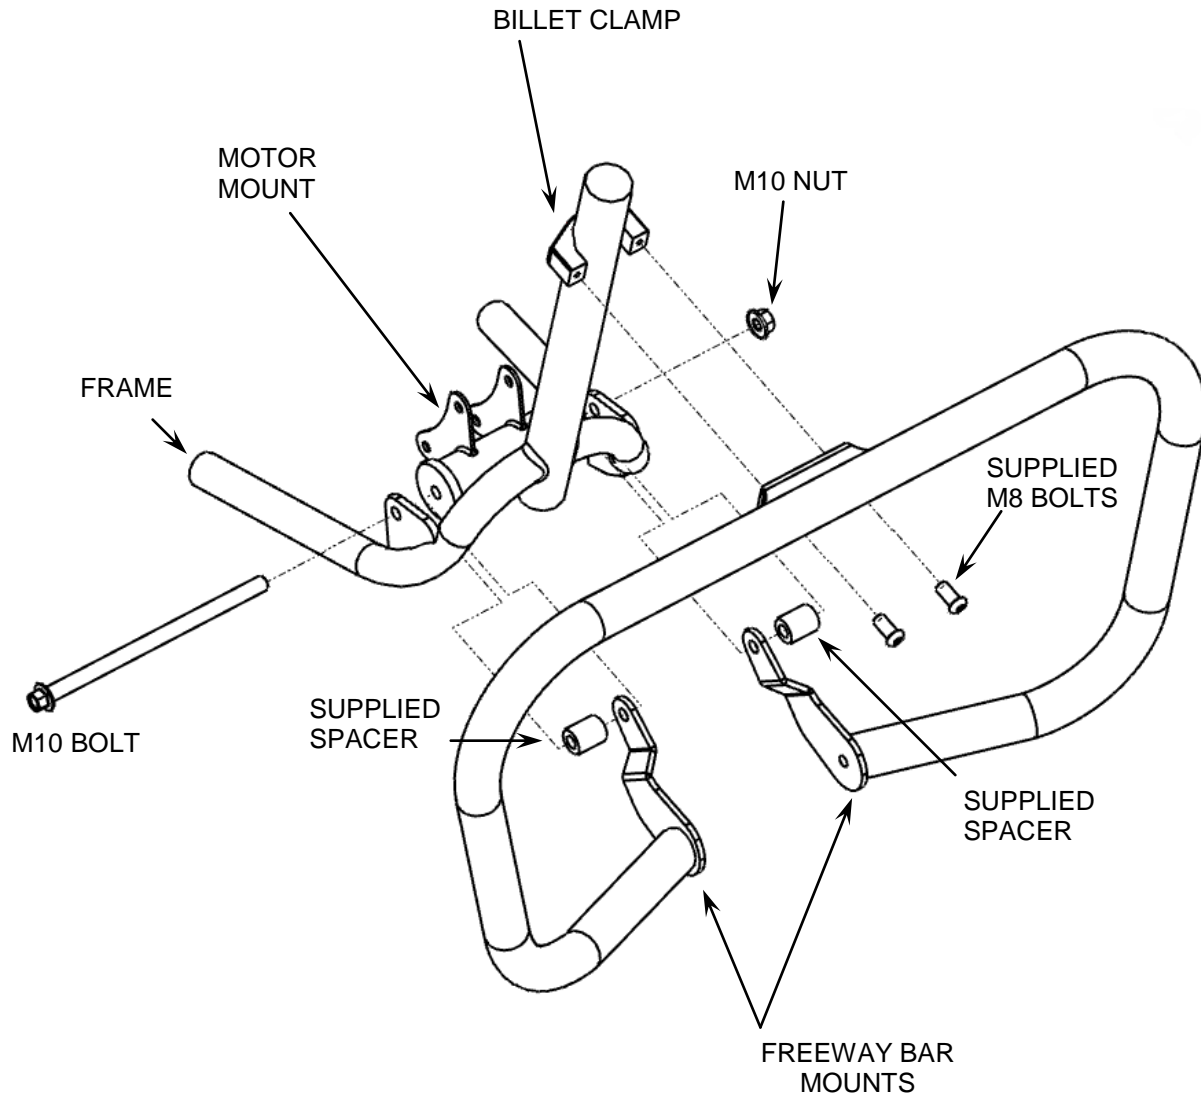

FIGURE 1
1. Loosen but do not remove (2) M8 bolts/nuts on front lower motor mount. Remove M10 bolt/nut from motor mount/frame and set aside for later reinstallation. Remove and discard the spacers from between frame and motor mount.
3. Place supplied billet clamp behind front frame tube and insert (2) supplied M8 bolts through freeway bar mount and into billet clamp. See Figure 1. **DO NOT TIGHTEN** at this time.
4. Remove M10 bolt inserted in Step 2 and place supplied black spacers between outer frame mounts and freeway bar mount brackets and re-insert bolt through assembly. Start M10 nut removed in Step 1. See Figure 1.
5. Make sure freeway bar is aligned properly and tighten M10 bolt/nut and (2) M8 clamp bolts. Tighten the M8 bolts/nuts loosened in Step 1 to factory specifications.